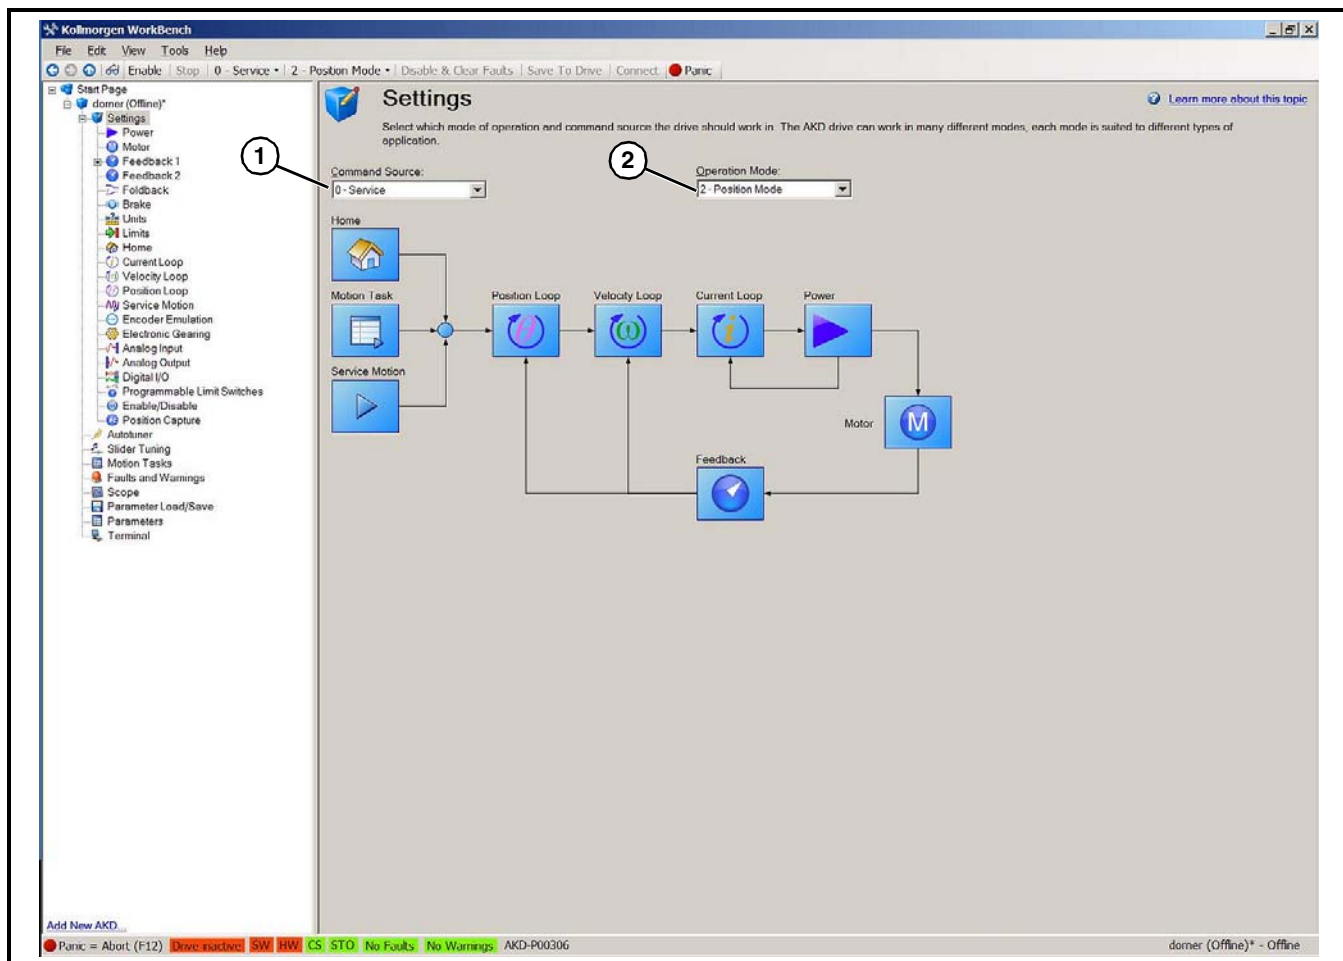

Figure 39
Command Source = 0 – Service (Figure 39, item 1)
Operation Mode = 2 – Position Mode (Figure 39, item 2)